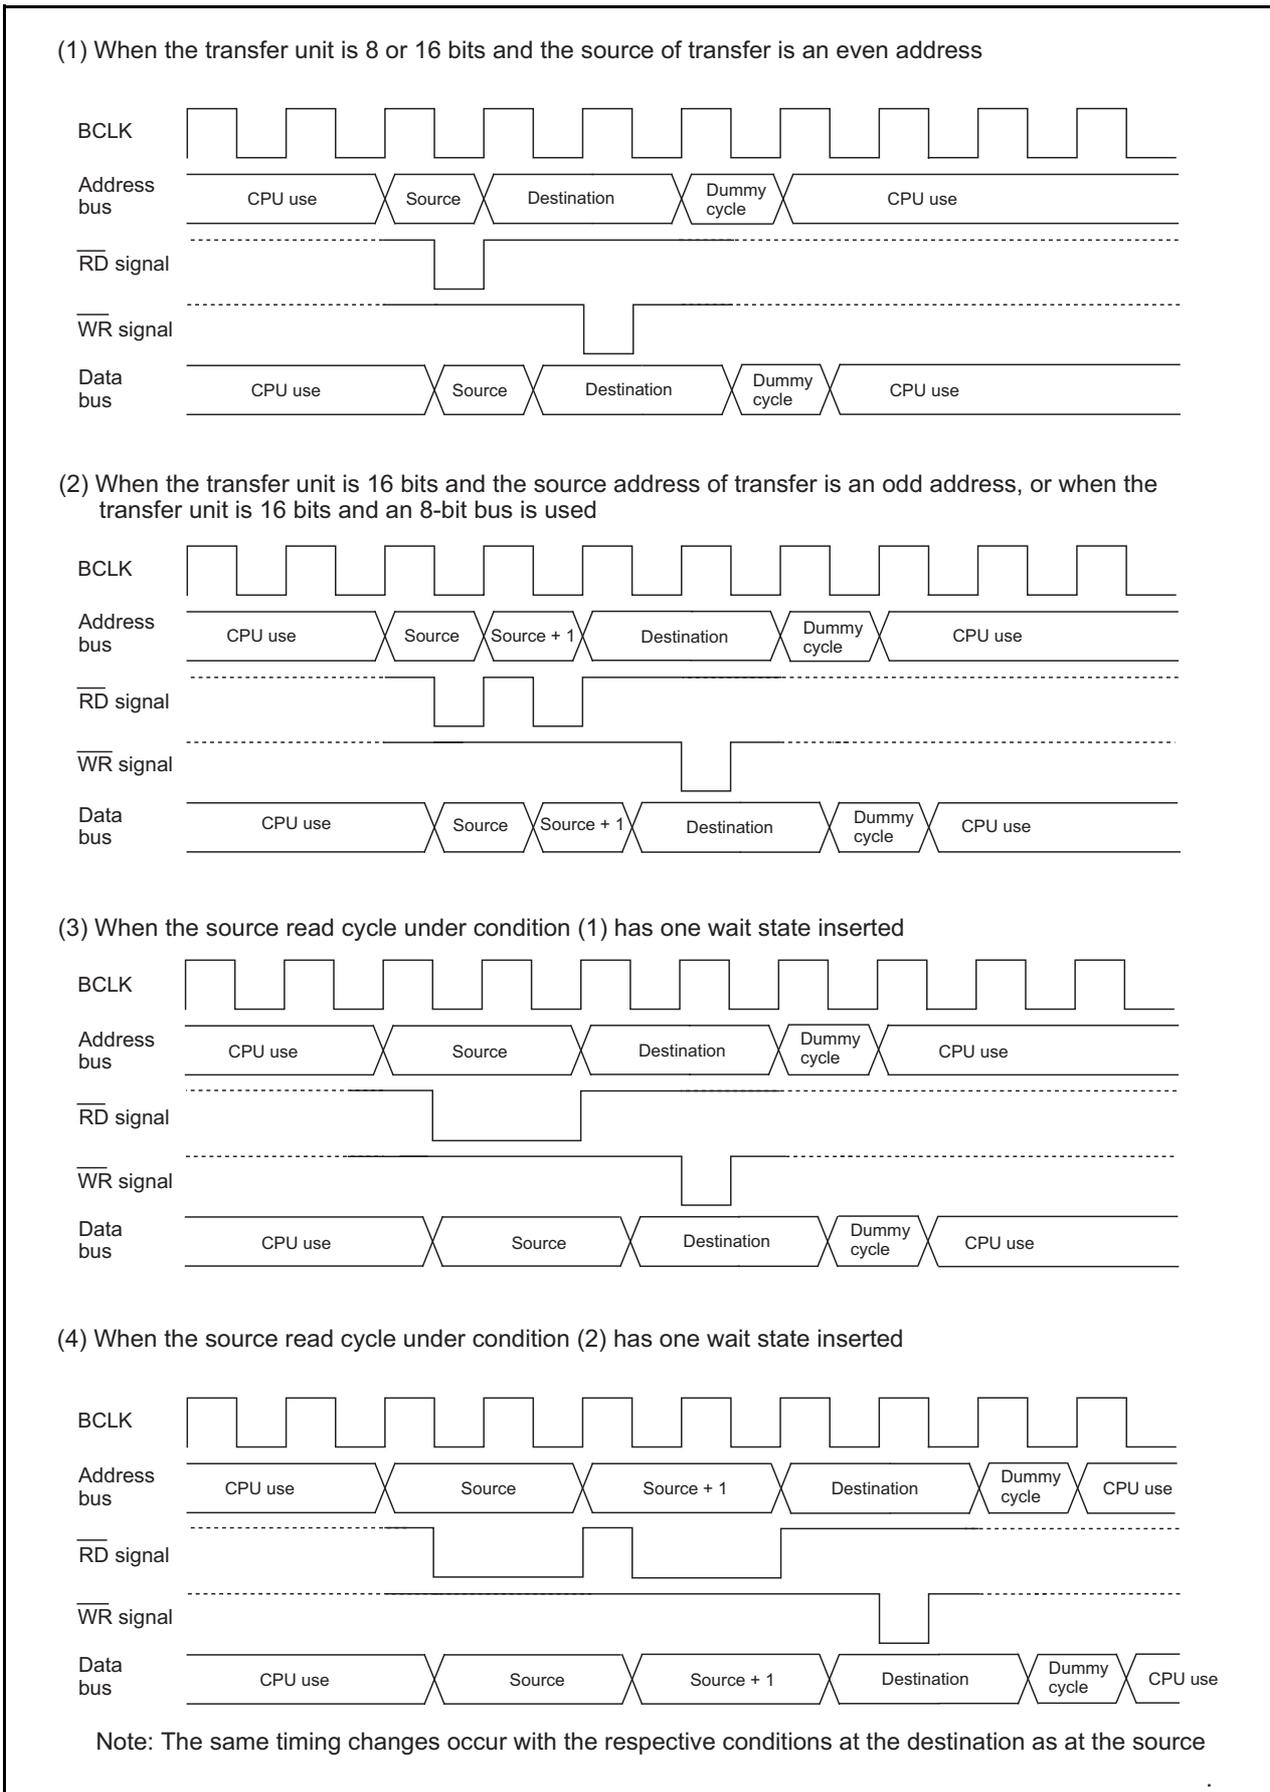

Figure 8.5 Transfer Cycles for Source Read
Figure 8.5 shows the example of the cycles for a source read. For convenience, the destination write cycle is shown as one cycle and the source read cycles for the different conditions are shown. In reality, the destination write cycle is subject to the same conditions as the source read cycle, with the transfer cycle changing accordingly. When calculating transfer cycles, take into consideration each condition for the source read and the destination write cycle, respectively. For example, when data is transferred in 16 bit units using an 8-bit bus ((2) in Figure 8.5), two source read bus cycles and two destination write bus cycles are required.